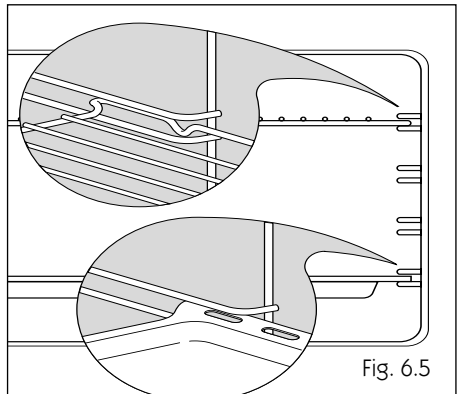

Fig. 6.5
- Slide the tray and rack into the runners (Fig. 6.5).